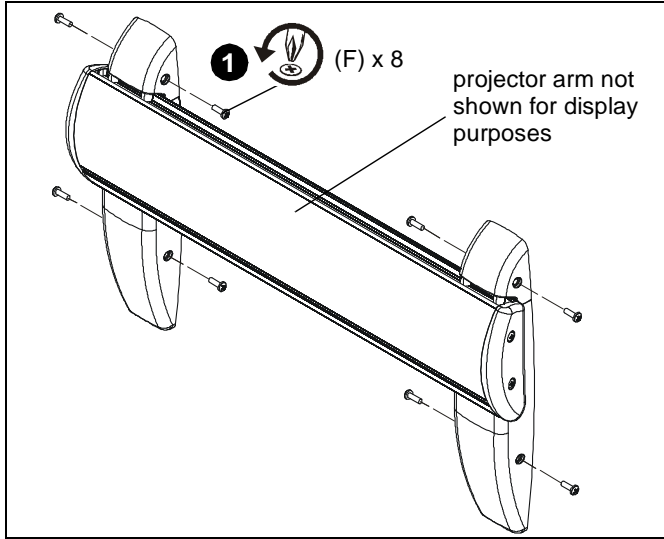

Figure 42
1. Remove eight #8-32 x 1/2" Phillips pan machine screws (F) from wall bracket covers. (See Figure 42)